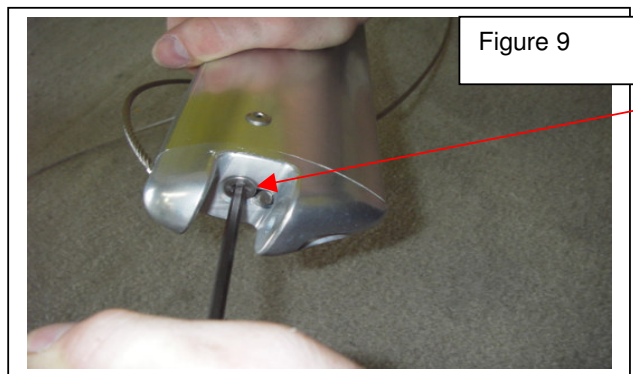

Figure 9
14. Remove the 6mm countersink head screw that holds the knuckle to the down tube using a 4mm Allen key (item 8 in exploded parts view, drawing 6476). Remove the knuckle completely. See figure 9.